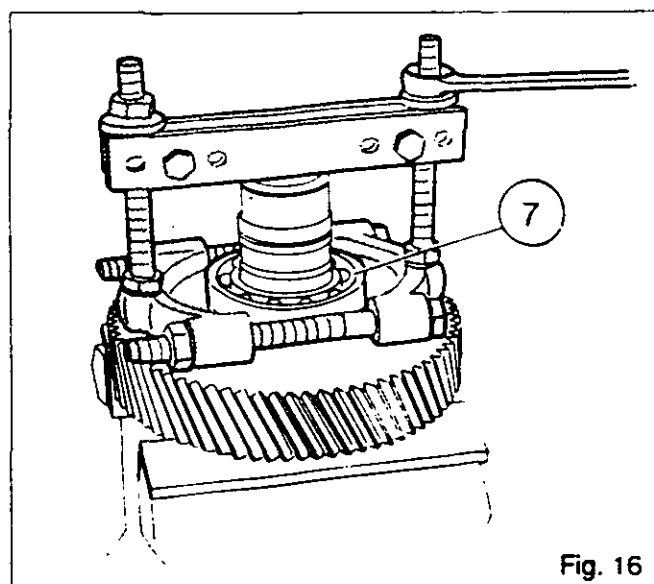
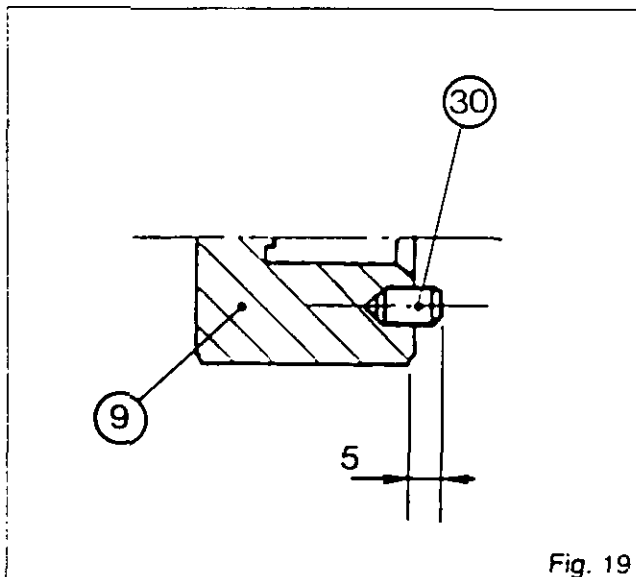
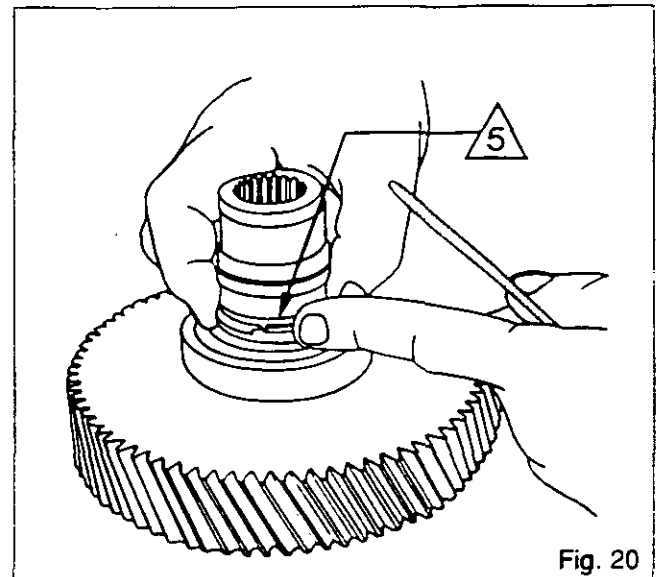

Fig. 16
Fig. 19
Fig. 20
57. Remove the seal rings (5) (Fig. 20). Extract the ball bearing (7) (Fig. 16).
Two pins (30) are fitted in the support housing (9) 5 mm from the face (Fig. 19).
66. Using a suitable device and a press, push the ball bearing (7) in until it meets the shoulder.
67. Place the seal rings (5) in their grooves and join up the ends (Fig. 20). Ensure that they turn freely.
68. Slide the sleeve (4) on to the seal rings, taking care not to damage them.
**Note:** Position the larger diameter end of the sleeve towards the ball bearing (7).